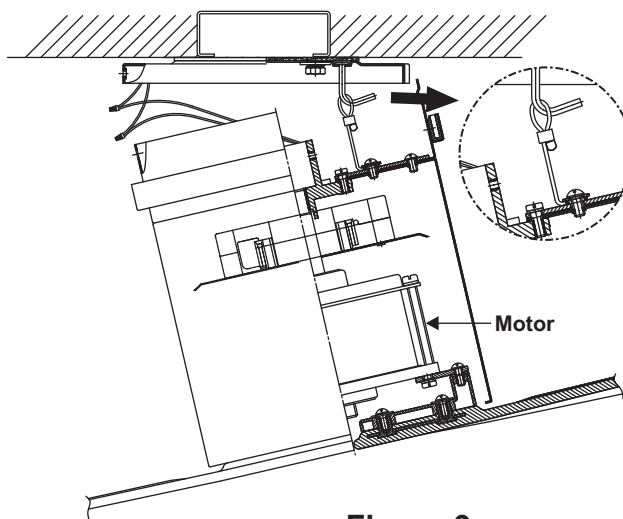

Figure 9
Step 3. Lift fan into position by hanging the motor assembly onto the hook from the mounting bracket allowing it to hang freely (Fig. 9).